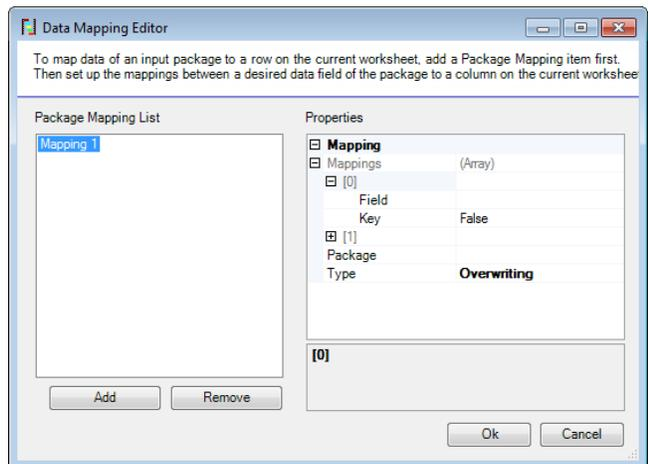

Figure 23: Data Mapping Editor Window
2. Click **Add** to insert a new Package Mapping List (*Figure 23*).